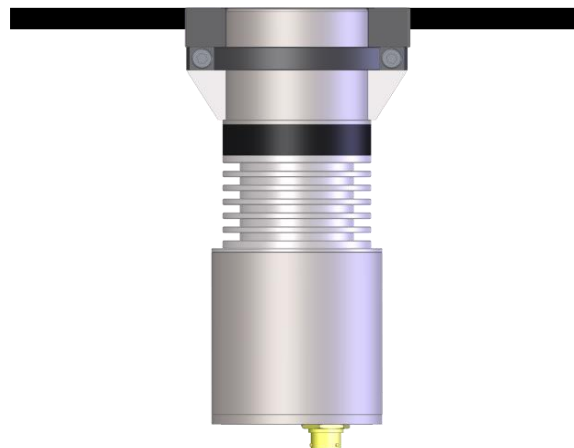

Figure 32: Flush Mounted Sensor
5. Confirm that the sensor is flush with the internal wall of the installation location (Figure 32).